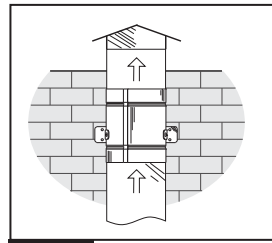

Fig. 10
1. Install an outer hood above in case of vertical mounting position, fig. 10.